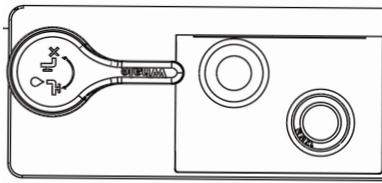

Fig. 35A Drain Valve - Closed Position
- Step One:** Upon initial operation or to refill after the system has been drained, check that the drain valve is closed, (see Fig 35A) then fill the system with clean, fresh water.